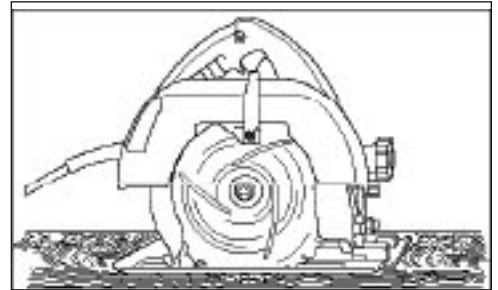
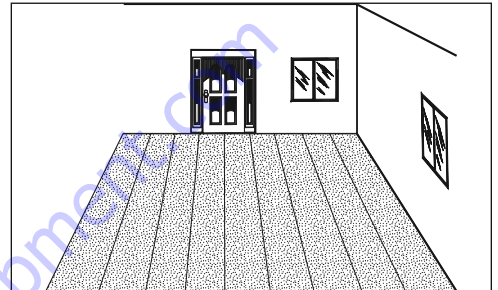

FIG. 11
FIG. 12
**Glued Hardwood Flooring:** A 10" (25.4 cm) blade is recommended for regular adhesive; a 6" (15.25 cm) blade for epoxy. For proper removal of hardwood flooring (plank solid, plank laminated, parkay laminated), flooring must be scored to blade width. This is done by using a circular saw set at a depth of 99% of the thickness of the board, just missing the subfloor surface when on concrete (Figure 11). A chalk line for scoring lines can be used across the floor the width of the blade (Figure 12). A ripping guide attached to the saw can be used to eliminate chalk line marks. For true parkay flooring, scoring is not necessary. It will come up in small pieces. Open an area large enough to fit machine or start from a doorway.